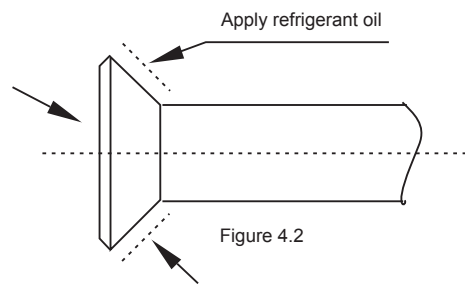

Figure 4.2
- Before the socket cap is installed on the pipe socket, apply some refrigerant oil on the socket (both inside and outside), then rotate it three or four times before you tighten the cap. See Figure 4.2.